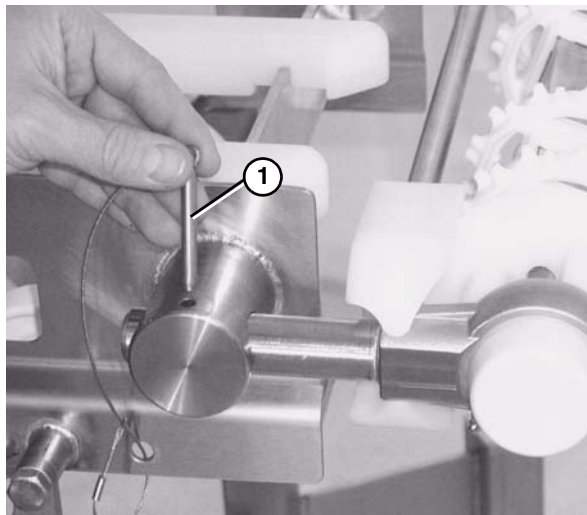

Figure 52
1. Remove the pull pins (**Figure 52, item 1**) on the tension end of the conveyor to release tension on the belt.